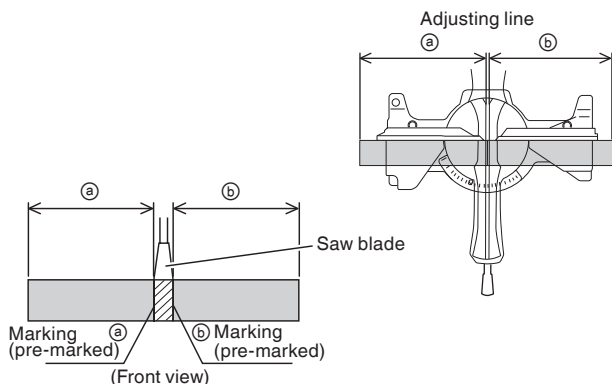

Fig. 24
- (1) As shown in Fig. 24 the width of the saw blade is the width of the cut. Therefore, slide the workpiece to the right (viewed from the operator's position) when length (b) is desired, or to the left when length (a) is desired.